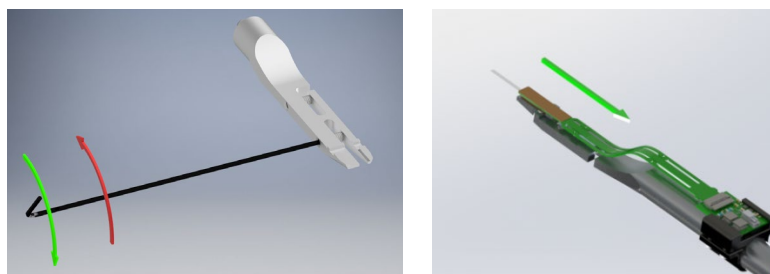

Figure 28. Mounting Neuropixels probe to adapter head.
1. Open the clamp by tightening front screw with $\frac{1}{4}$ turn (Figure 28, left, green arrow).
2. Slide the Neuropixels probe dove tail cap to adapter head from front to back (Figure 28, right).
3. Release front screw so that it is not in contact with the fork (Figure 28, left, red arrow).